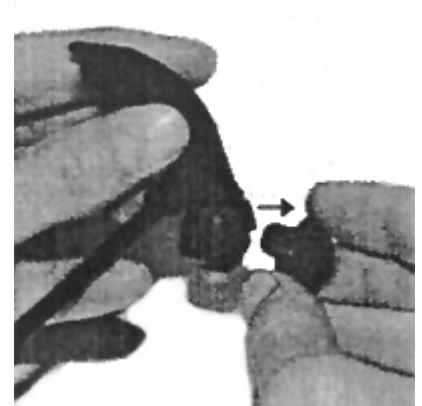

Figure 7
- Remove *eccentric bush* from the right side of the hammer axle hole (Fig. 7)